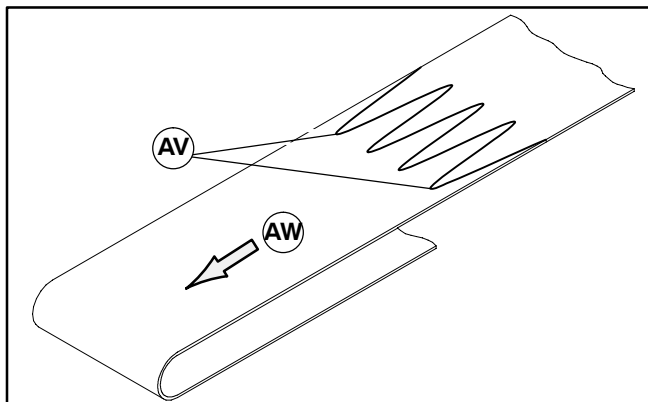

Figure 25
1. Orient conveyor belt so the splice leading fingers (AV of Figure 25) point in the direction of belt travel (AW) as identified by the label (AU of Figure 26).
1. Orient conveyor belt so that the splice leading fingers (AV of Figure 25) point in the direction of belt travel (AW) as identified by the label (AU of Figure 26).